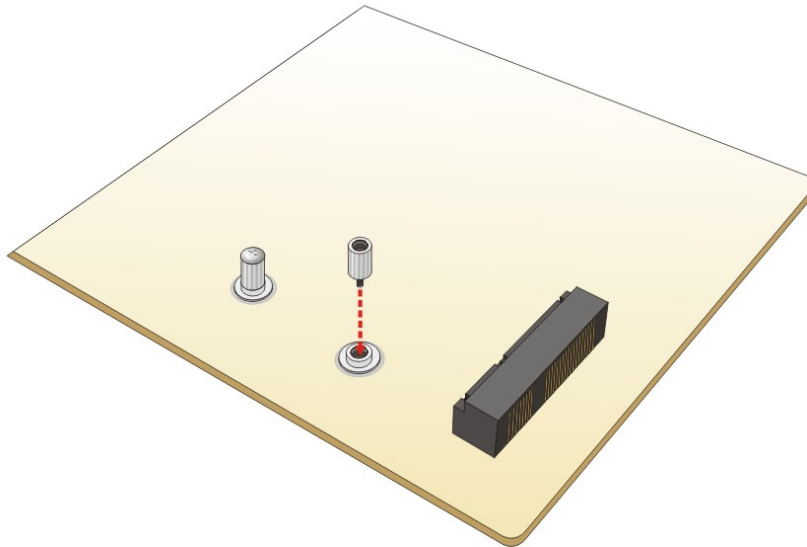

Figure 4-5: Installing the Standoff
Step 2: Install the standoff to the screw hole for the half-size PCIe Mini card. Install the supplied standoff to the screw hole for the half-size PCIe Mini card (**Figure 4-5**).